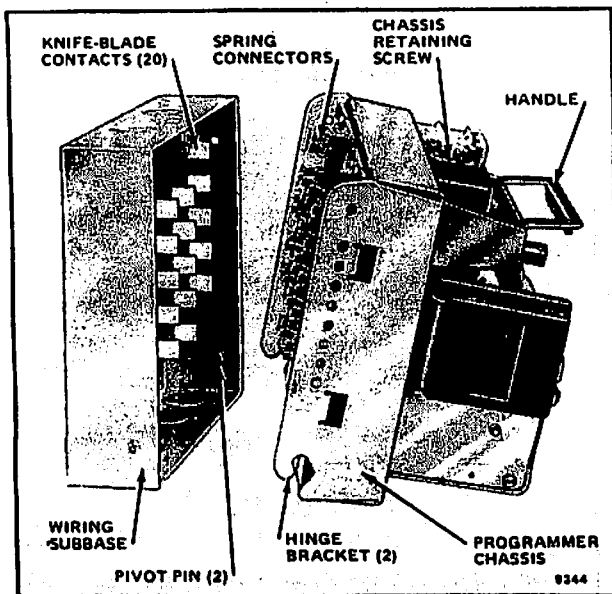

FIG. 8—MOUNTING THE PROGRAMMER ON THE SUBBASE.
1. The subbase can be mounted in any position except horizontally with the knife-blade contacts pointing down. The standard vertical position (shown in Fig. 8) is recommended. Any other position decreases the maximum ambient temperature rating.
INSTALLING THE PROGRAMMER (Fig. 8)